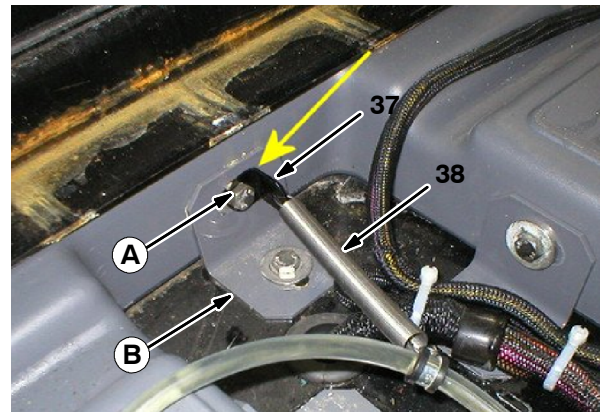

FIG. 16
24. Install the spring bracket (37) onto the spring (38). Refer to Fig. 16.
25. Remove the fastener and washer (A) from the bracket (B) holding the solution tank onto the machine frame. Refer to Fig. 16.
26. Use the fastener and washer (A) removed from the machine in the previous step to install the spring (38) onto the machine as shown in Fig. 16.